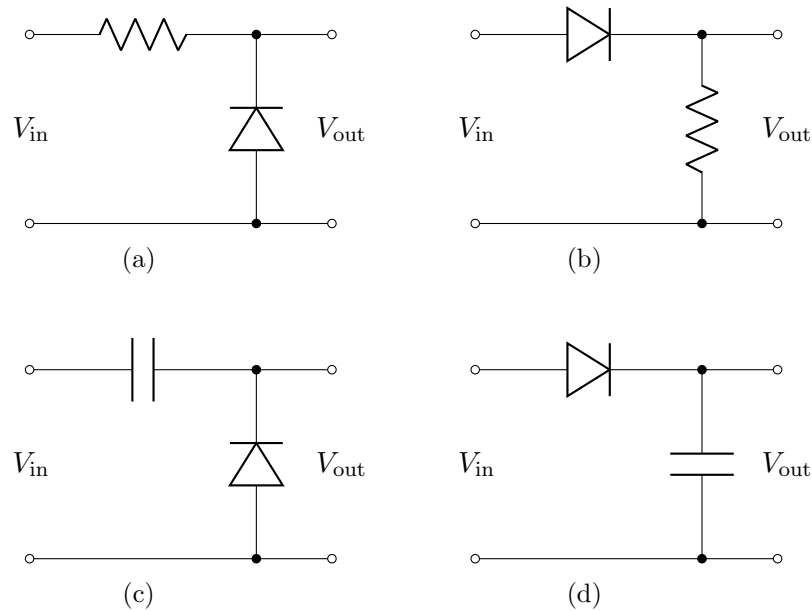

Figure 2: Basic diode-resistor and diode-capacitor circuits
2. The four circuits shown in Fig. 2 are diode-resistor and diode-capacitor combinations that perform clipping, rectification, level shifting, and filtering. Construct each of these circuits using the diode board and variable resistor or capacitor boxes. Set $R = 1 \text{ k}\Omega$ and $C = 0.1 \mu\text{F}$ and input a 1 kHz, 4 V peak-to-peak sine wave to each circuit using the function generator. Use the oscilloscope to measure the output voltage. For each circuit, make a sketch in your lab notebook showing the input and output voltages when using the Si diode. Identify the function of the circuit in your sketches. Observe what happens when you reverse the diode and when you use the Ge diode instead (no sketches required for these cases).
3. The circuit in Fig. 2(d) can be considered a simple DC voltage supply. Observe what happens when you attach a $R_L = 50 \text{ k}\Omega$ load resistance across the output (using a resistor box). Sketch the output waveform and measure the peak-to-peak "ripple", i.e. the AC component in the output voltage. Estimate the ripple based on the expected behavior of an R - C circuit and